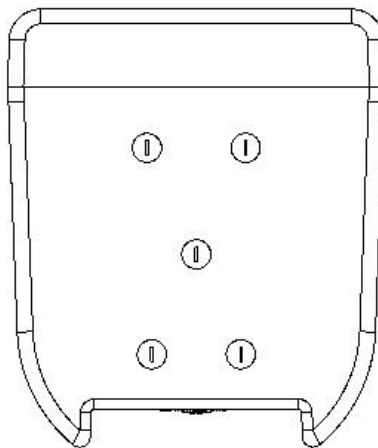

Figure 1
For One Systems 108/HTC, 108/HTH, 208/HTC and 108/HSB enclosures, two (2) “eye” bolts must be used for an “upside down” configuration, or a bottom mount configuration. This is shown below in figure 1. Two points **must** be used, and the center point (a third point) may be used for aiming.